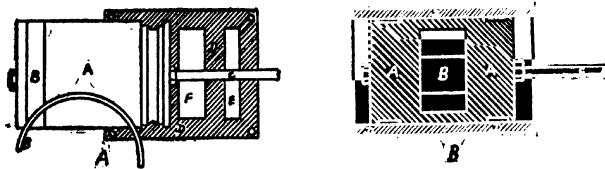

FIG. 76.—NEWTON BALANCED VALVE.
The Newton Balanced Valve.—This is another balanced valve which operates on the same principle as the D slide valve. Two views of this valve are illustrated in Fig. 76. The left-hand view (A) shows the back of the valve with the valve cover removed. In this view the body of the valve A is semicircular in shape, the flat part being the valve face, while the circular back is fitted with grooves in which snap rings B are fitted. A cover fits snugly over